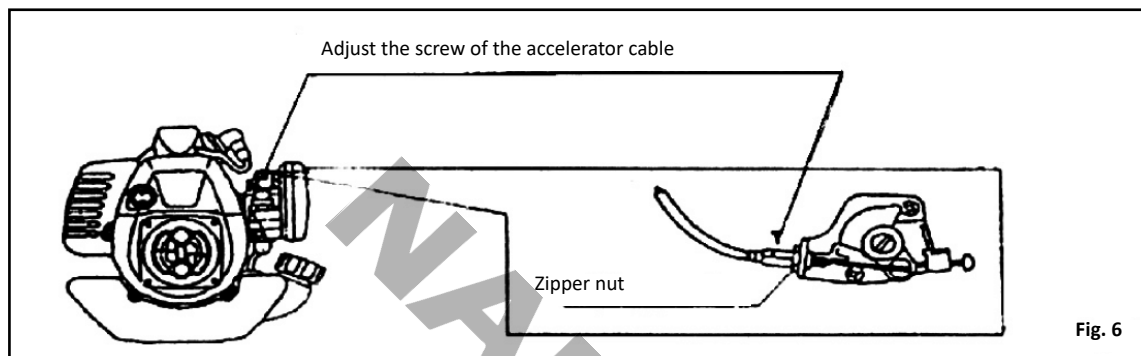

Fig. 6
(1) Fill the tank with fuel. Use the mixture of gasoline composed of normal gasoline of automobile and our exclusive oil for two-stroke motors. Use a special type 2-stroke oil (30ml of oil for each 1L of unleaded gasoline 95 octane).
(2) Cable regulator of accelerator (Fig. 6)